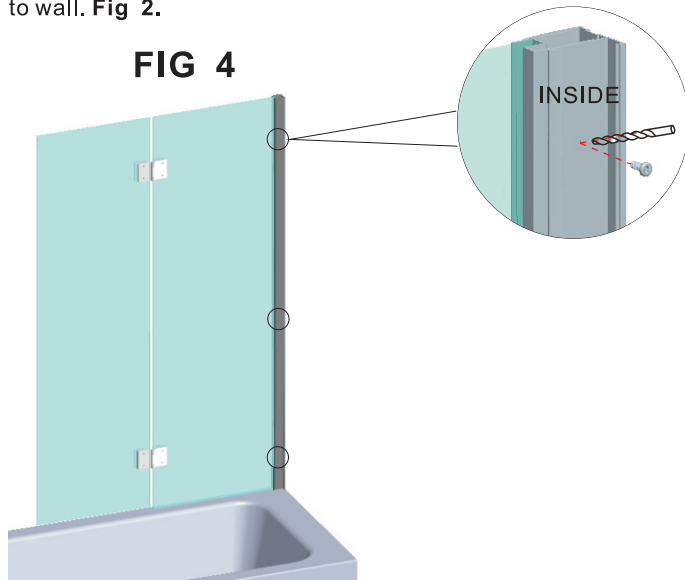

FIG 4
4. Drill 3 holes through the wall profile and fixed panel using a 3.0mm steel drill bit. Using the screws, fix the screen upright to the wall profile in 3 places. **Fig 4.**